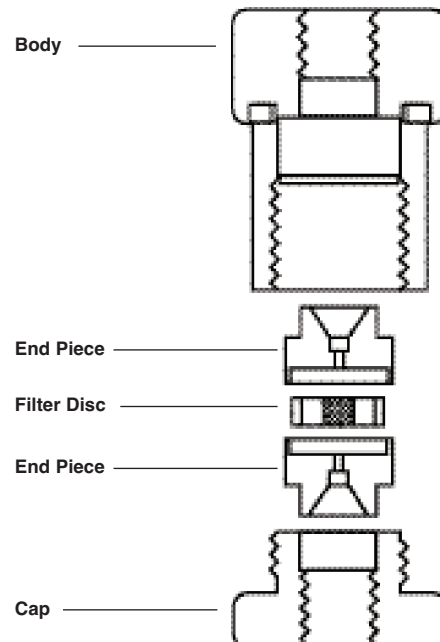

Fig. 1. Exploded view of the Column Inlet Filter.
Refer to Figure 1 and proceed as follows:
c) Screw the cap into the body until the threads on the cap do not show. The Column Inlet Filter should be assembled as shown in Figure 1.